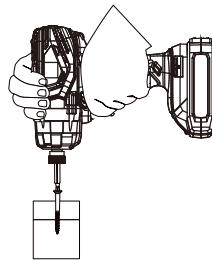

Fig. 10
3. Insert the screwdriver bit fully into the screw head (Fig. 10).